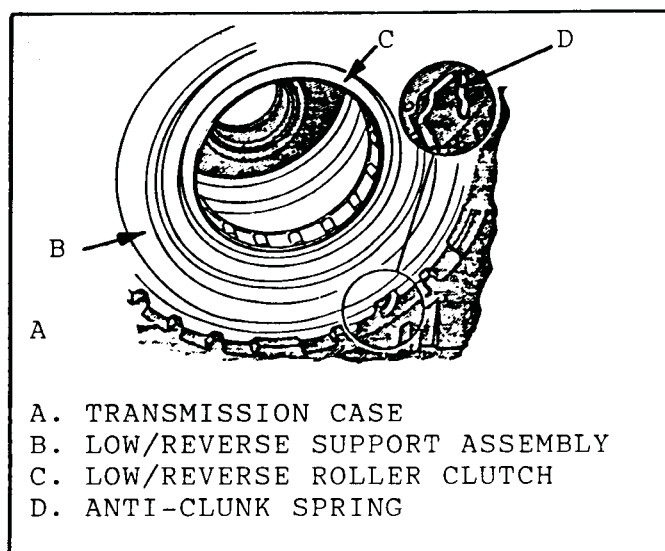

Figure 64
6. Install anti-clunk spring into case as shown in Figure 64. Retain with petrolatum.